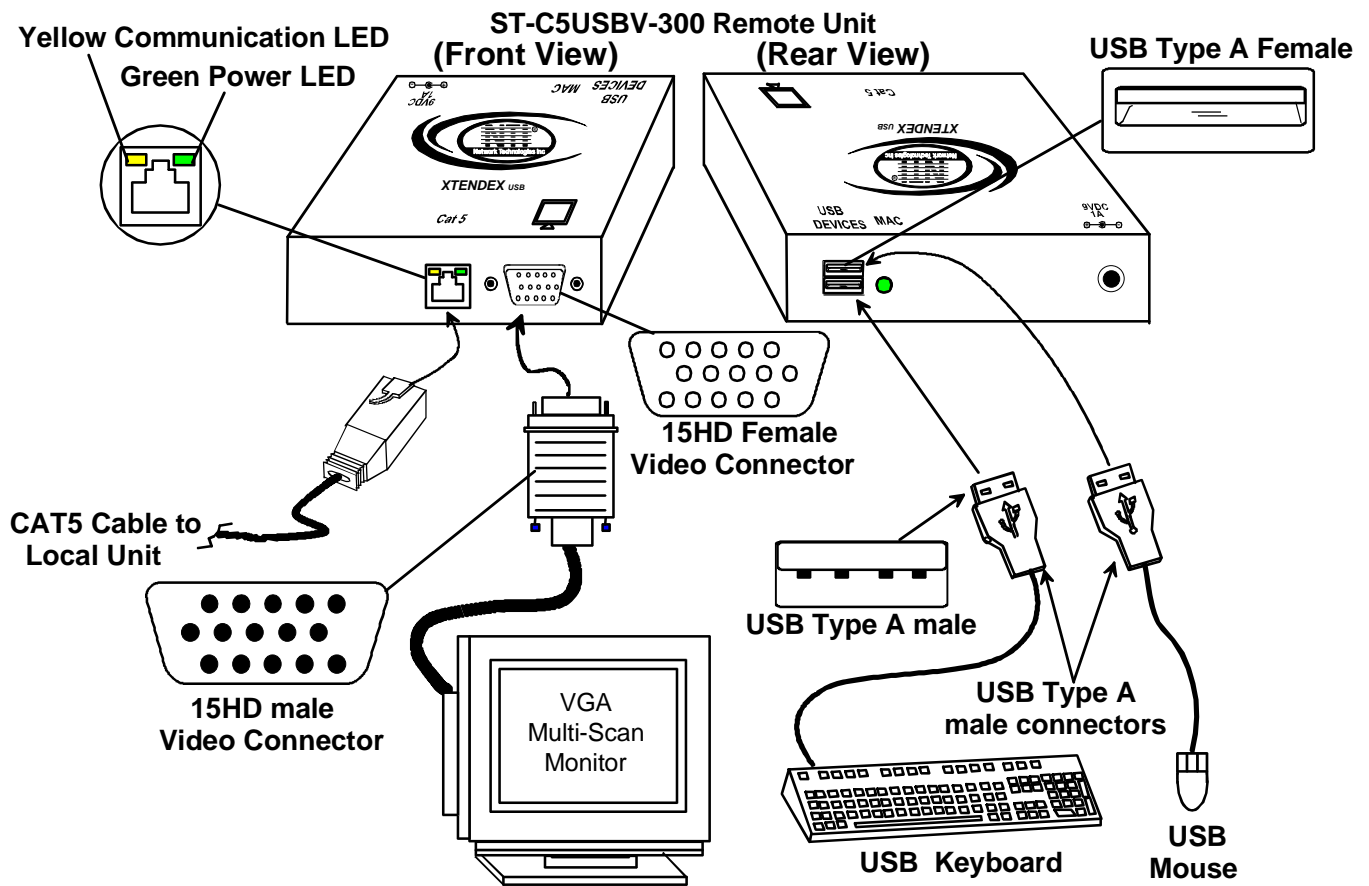

Figure 6- Connect the Monitor and Devices to the Remote Unit
1. Connect the monitor cable to the 15HD female VIDEO port on the back of the Remote Unit. (See Fig. 6)